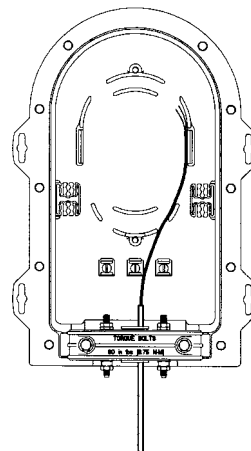

FIGURE 15 - ROUTING CENTRAL TUBES FOR CABLES IN CENTER ENTRY
7.03 Route the central tube from the cable(s) entering the center cable entry through the wall opening and against the inside of the side wall section. (Figure 15)